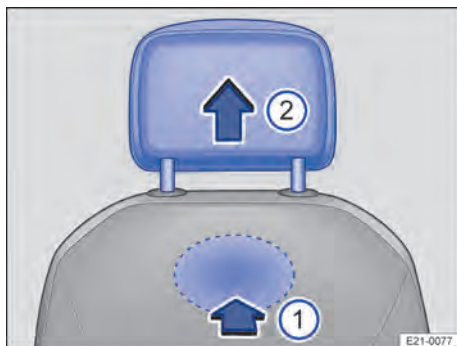

Fig. 77 On the back of the front seat backrest: Removing the head restraint
in the direction of the arrow → Fig. 77 ①.
3. For seats with a stowage area in the backrest, press the recess by pushing a long object through the hole in the upper part under the rubber strap on the stowage area → ①.
4. Pull the head restraint out fully in the direction of the arrow → Fig. 77 ②.